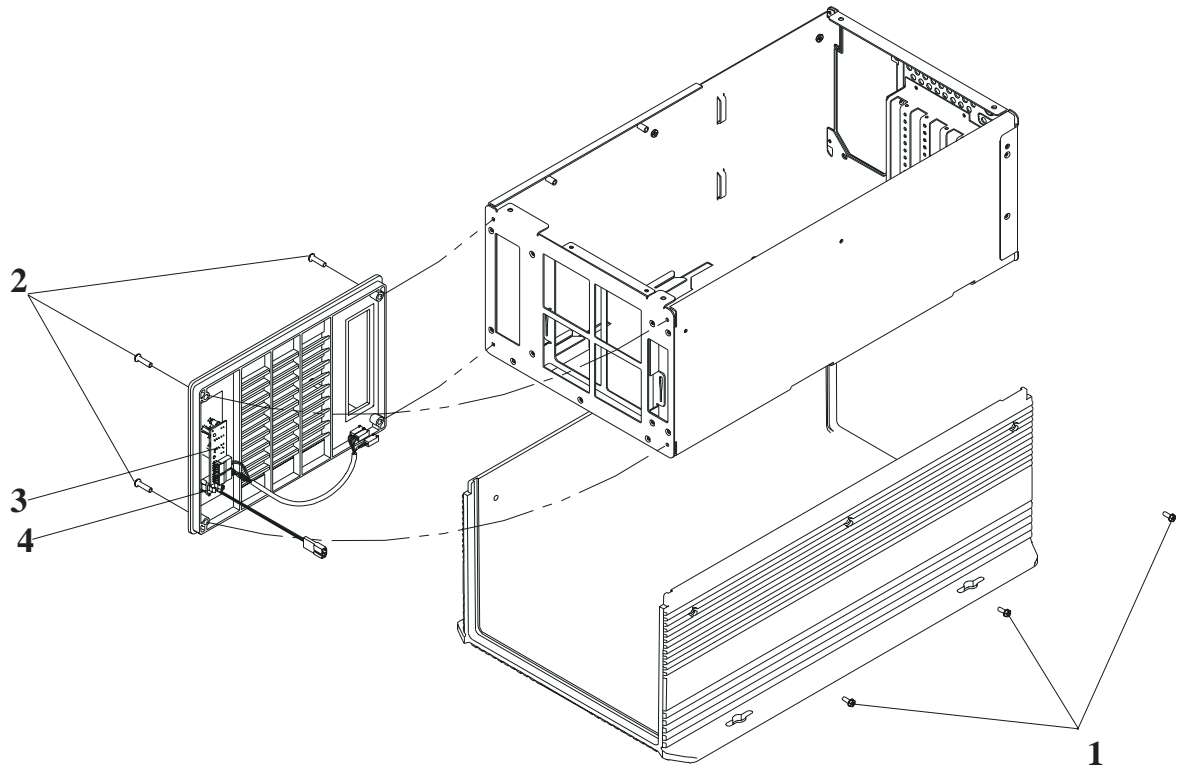

Figure 7-2. Removing and Replacing the LED Assembly
4. Press the retaining clips on each side of the power switch (item 4 in Figure 7-2 on page 7-39), and slide the switch out of the fascia.